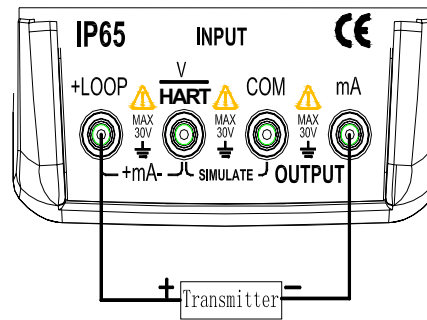

Figure 5-5
1. Insert one end of the test lead into the +LOOP and mA jack of the input (INPUT) terminal as shown in Figure 5-5: